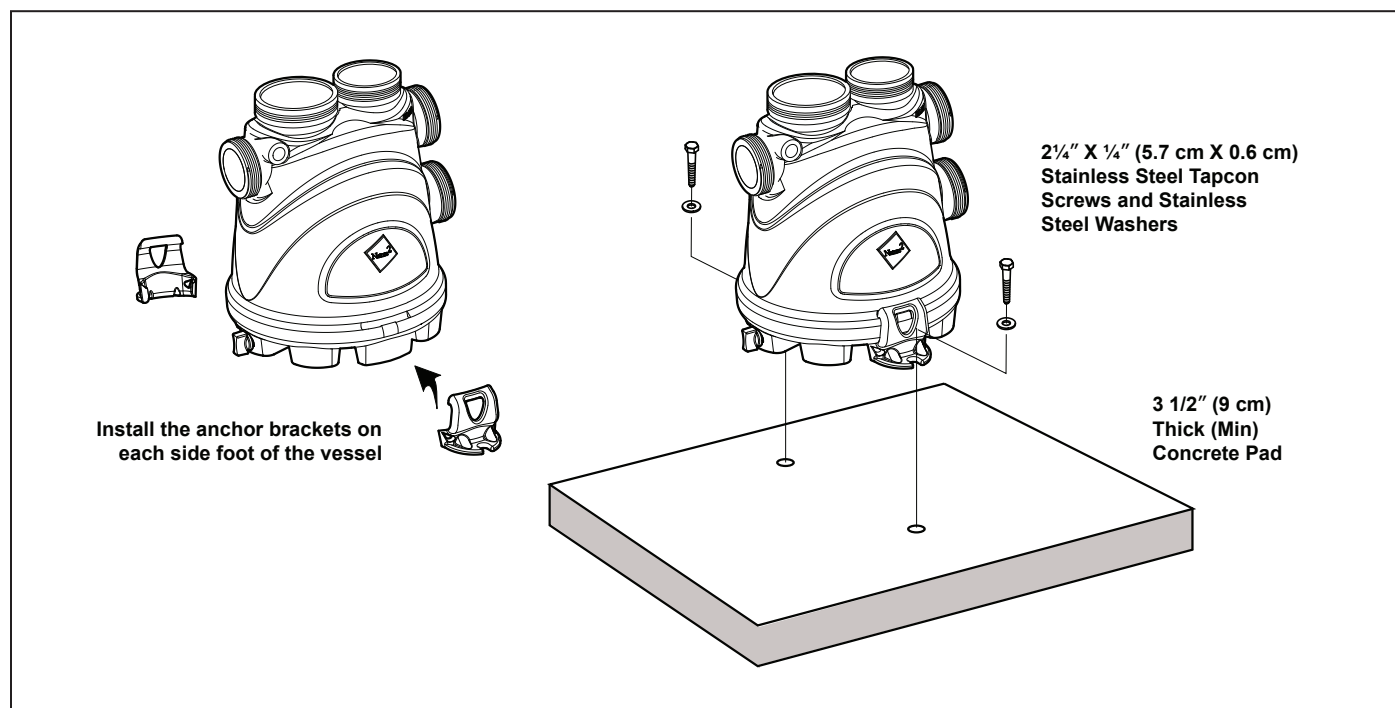

Figure 2. Anchor Bracket Installation
**NOTE** Anchor screws and washers for securing the vessel to the equipment pad are not included with the vessel. Zodiac Pool Systems, Inc. ("Zodiac") recommends that a 2 1/4" X 1/4" (5.7 cm X 0.6 cm) long stainless steel Tapcon® concrete screw and stainless steel flat washer are used to mount each of the two (2) anchors in the base to the equipment pad. The Tapcon concrete screw meets Florida building code requirements.
1. Manually snap on the two (2) clip-type anchor brackets onto the side feet of the vessel as shown in Figure 2. Make sure these anchor brackets are attached firmly to the feet of the vessel.
3. Drill a 5/32" (0.5 cm) hole in the concrete at each of the two (2) hole locations of the anchor brackets. The correct size concrete drill bit should be obtained when the concrete screws are purchased.
4. Install the Tapcon screws and washers into each of the two (2) holes to secure the vessel to the equipment pad. Do not over-torque the screws.